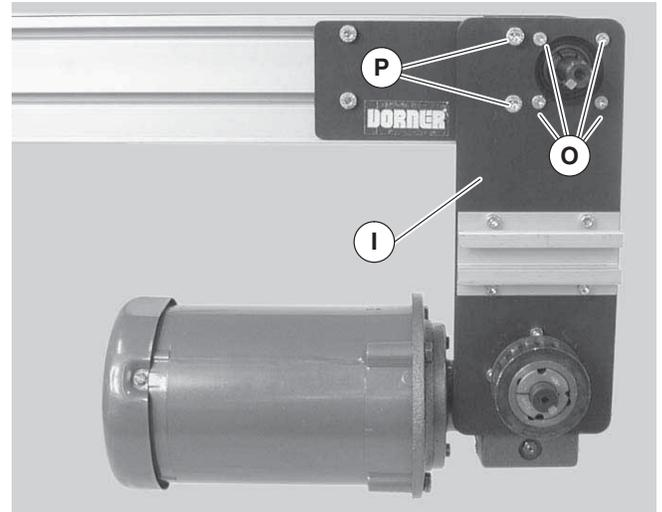

Figure 7
4. Attach mount assembly (Figure 7, item I) with two (2) M8 screws (P) and four (4) M6 screws (O). Tighten M6 screws (O) to 146 in-lbs (16.5 N-m) and M8 screws (P) to 288 in-lbs (32.5 N-m).